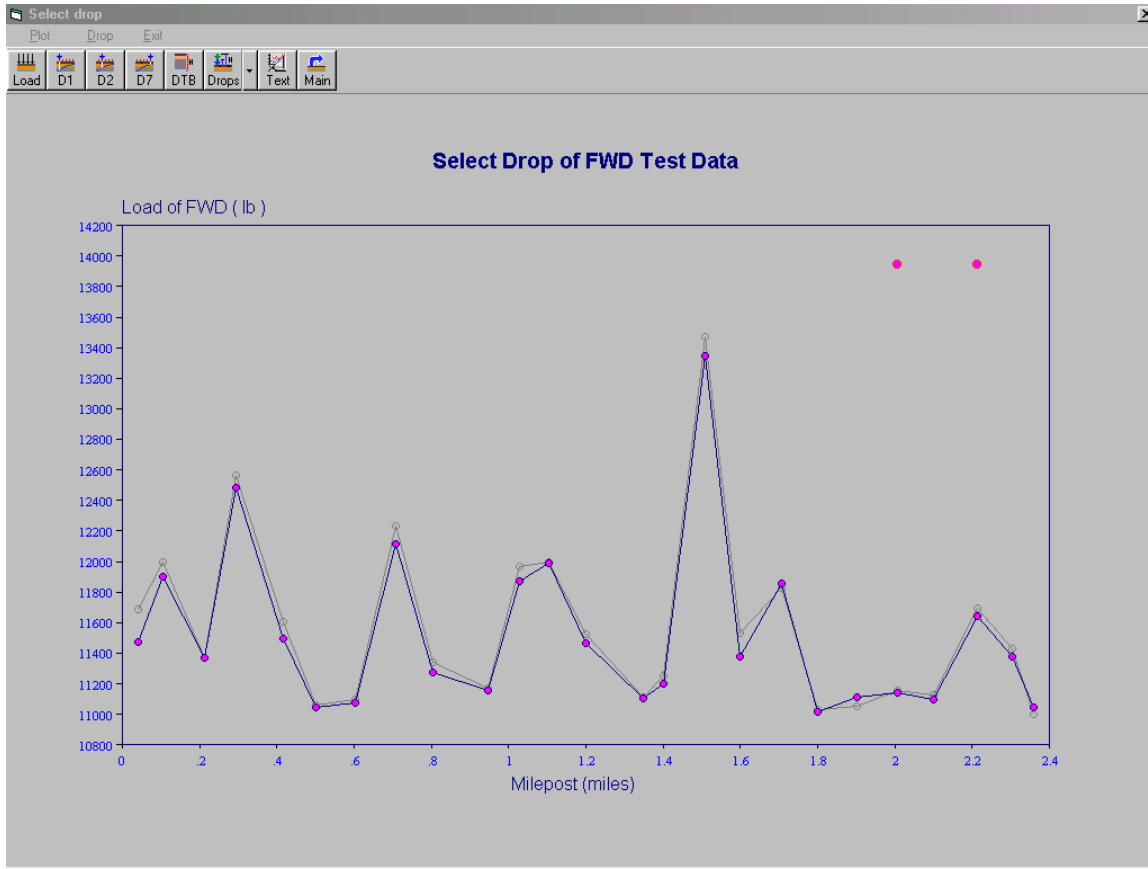

Figure 6. FWD Drop Select Screen.
If these distances do not match the user's FWD sensor layout, the user needs to change the values. In this screen the user must input the Asphalt Concrete (AC) thickness. This value is used in the DTB calculation. The input AC thickness will also be used in the AC thickness field in the back calculation section described later. The user clicks the Run button to do the DTB computation and proceed to the next screen (Figure 6. FWD Drop Select Screen).
In Figure 6, the user can select which drop to use for the remaining life or MODULUS analysis. The program automatically selects a drop based on the following criteria:
In Figure 6 the line that is marked with the pink circle shows the currently selected data. The first five icons in the toolbar permit the user to select the data to be processed based on the load (Load), center sensor deflection (D1), the second sensor deflection (D2), the outer sensor deflection (D7), or depth-to-bedrock chart. If, for example, the user selects the D7 icon, then the data from the 7th deflection sensor will be displayed, and the user can select which set to process. In Texas it is common that either two or four different drops are made at each location along the
highway under test. Therefore Figure 6 will typically contain two or four lines showing all the data collected at each test location.